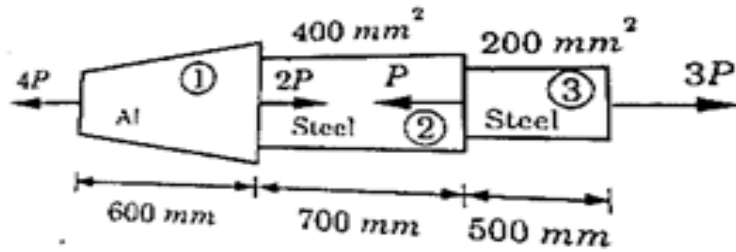

Figure 2(a)
- 2 a. A round bar with stepped portions is subjected to a force as shown in Fig. 2(a). Determine the magnitude of force 'P' such that net deformation in the bar does not exceed 1 mm. Young's modulus of steel is 200 GPa and that for Aluminum is 70 GPa. Big end diameter and small end diameter of tapering bar are 40 mm and 12.5 mm respectively. 10